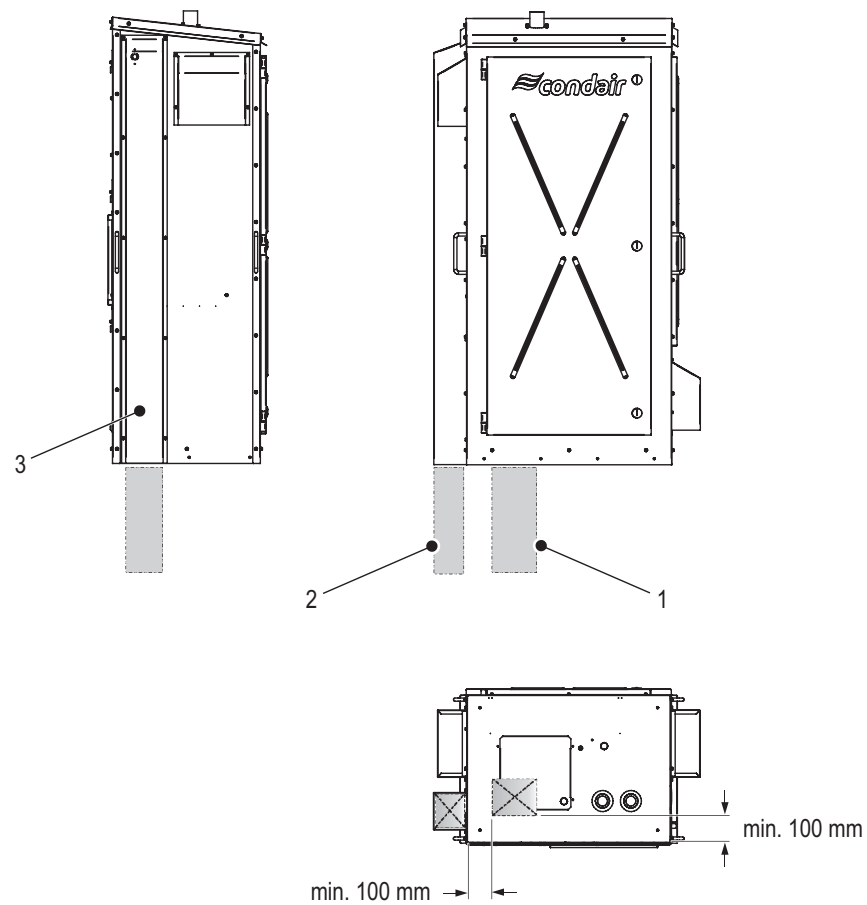

Fig. 9: Pipe Chase Location
It is recommended that all external drain lines and water supply lines are routed through pipe chases. Refer to Fig. 9 for the general locations and sizing of the pipe chases.
5. Install suitably sized pipe chases (recommended) for the drain lines and water supply line. Refer to Fig. 9 for general locations and sizes. Pipe chases are supplied by others.
4. (Recommended) Cut suitably sized openings in the roof (if installing on a roof) and install pipe chases. Refer to Fig. 9 for general locations.
5. Install suitably sized pipe chases (recommended) for the drain lines and water supply line. Refer to Fig. 9 for general locations and sizes.